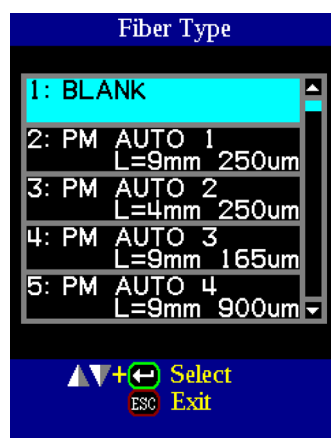
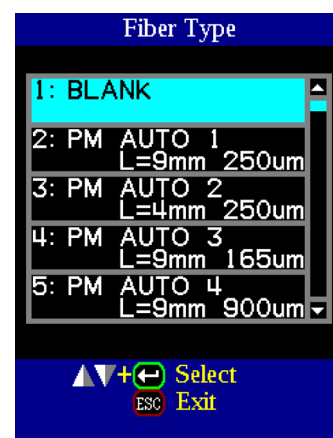

Figure 3 — Select a Blank Splice Mode
Figure 4 — Starting page of "Edit Splice Mode" menu
2. Press the [MENU] button to edit the splice mode – when pressed, you will be informed that no parameters exist for this mode and will be prompted to choose a fiber type (Figure 3). If there is not an exact match, choose the closest match and proceed to dial in the rest of the parameters in the Edit Splice Mode menu (Figure 4).